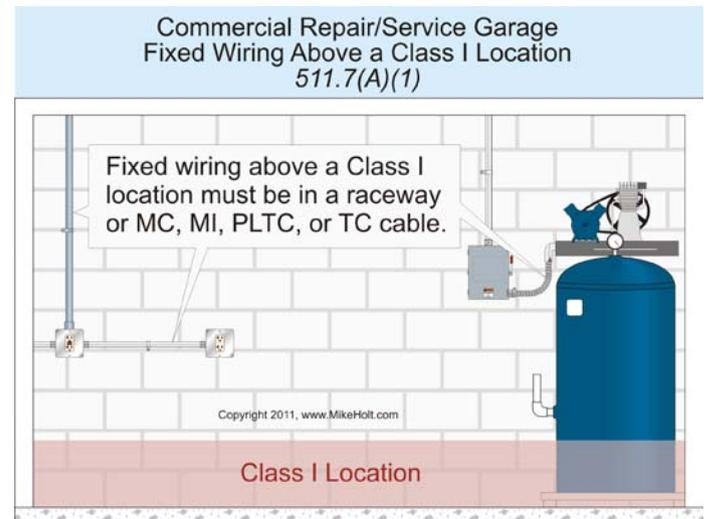

Figure 511-10
(1) Fixed Wiring Methods. Wiring above a Class I hazardous (classified) location must be in raceways, Types AC or MC cable, manufactured wiring systems, PLTC cable in accordance with Article 725, or TC cable in accordance with Article 336. **Figure 511-10**